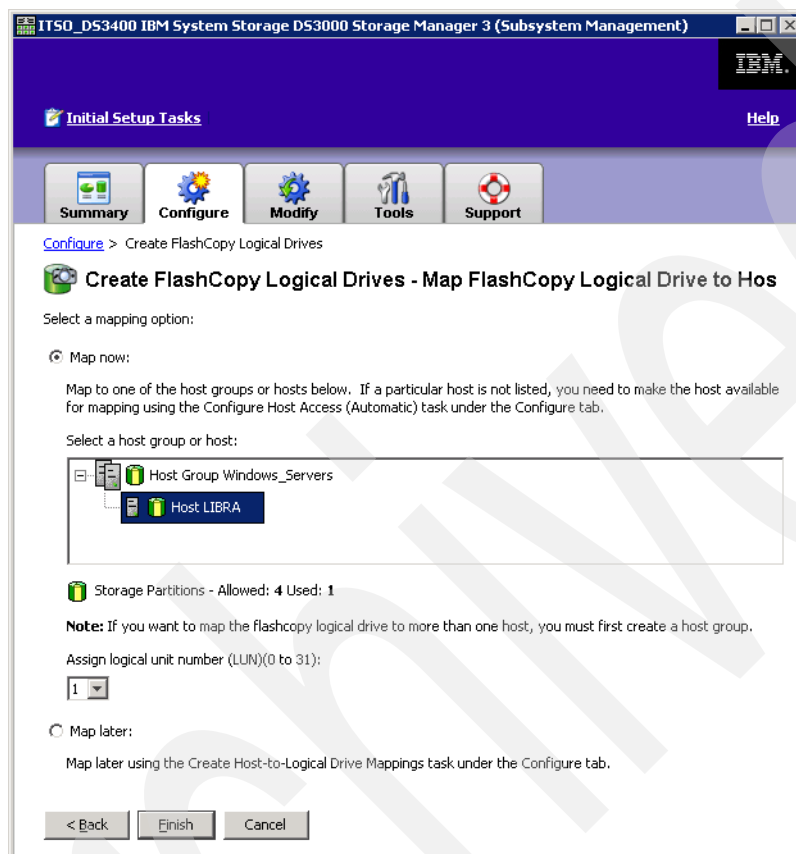

Figure 9-65 FlashCopy - Map logical drive to host
3. The Map FlashCopy Logical Drive to Hosts view displays (Figure 9-65). Here you assign logical drive-to-LUN mappings between the FlashCopy logical drive and the host that will access the FlashCopy logical drive, using the Mappings View of the Subsystem Management window. In some cases, depending on the host operating system and if any logical drive manager software in use, mapping the same host to both a base logical drive and its associated FlashCopy logical drive might result in conflicts.
In the example just shown in Figure 9-65 on page 191, the FlashCopy logical disk is made available to the host Libra. This enables the host Libra to access and mount the FlashCopied disk as part of its own file system.
5. You are prompted for the host mappings, as shown in Figure 9-65 on page 191. Follow the instructions given in step 3 on page 191 to complete your FlashCopy logical drive configuration. The steps are identical to the automatic path.